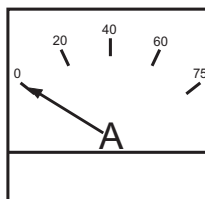

Figure 46. Ammeter (No Load)
13. The ammeter (Figure 46) will indicate zero amps with no load applied. When a load is applied, this meter will indicate the amount of current that the load is drawing from the generator's alternator.